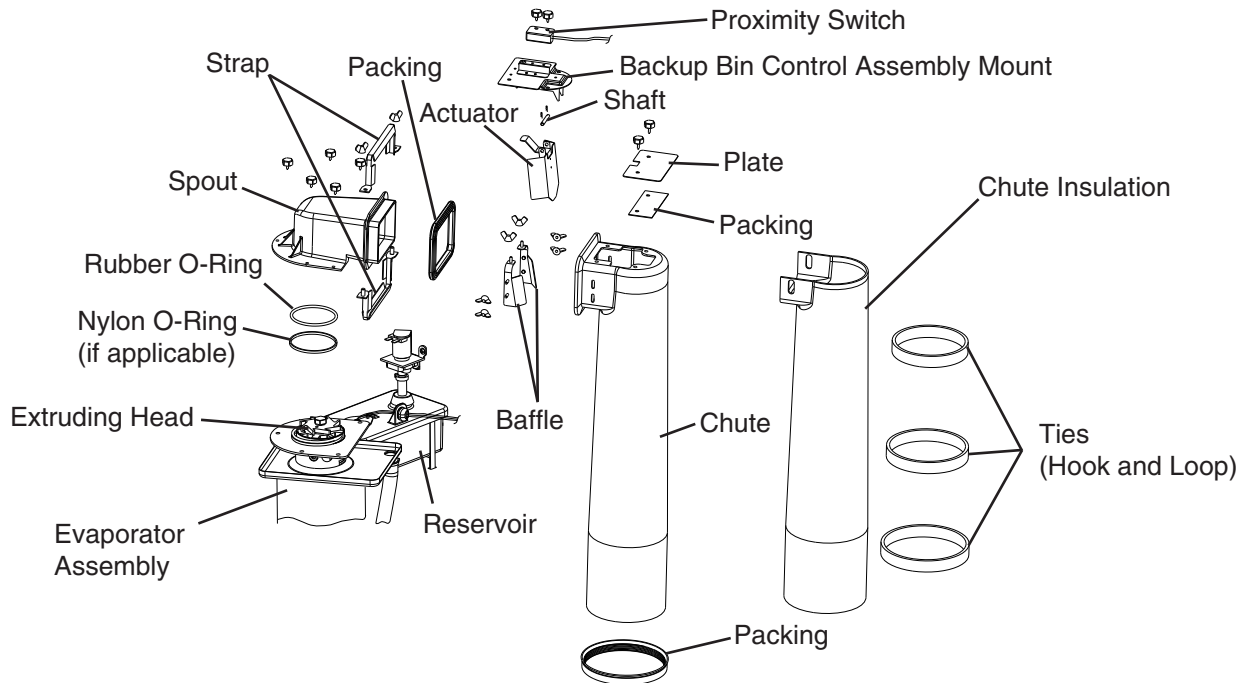

Fig. 20
- 6) Remove the strap connecting the spout to the chute assembly, then remove the spout. See Fig. 20.